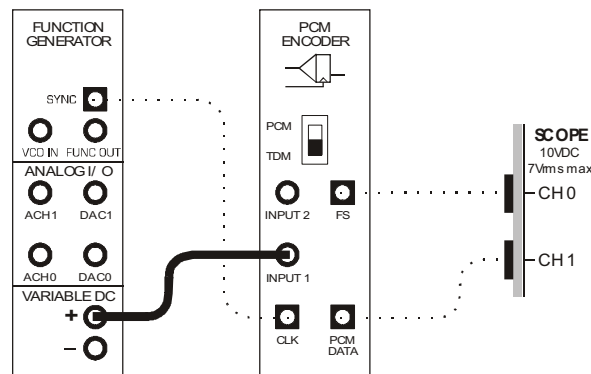

Figure 9
30. Modify the set-up as shown in Figure 9 below.